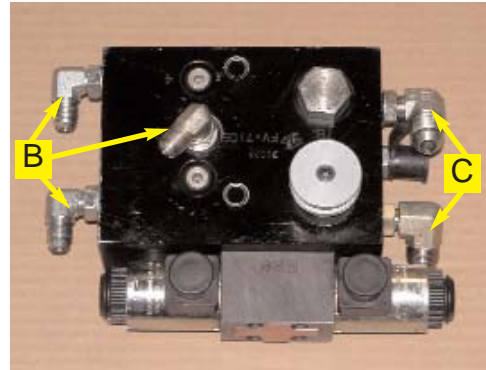

Figure 1a. Prepared Automated Steering Block.
- b. Install the small elbow adapter fittings (**B**) in the **LS**, **A** and **B** ports and the larger elbow adapter fittings (**C**) in the **P** and **T** ports. (Figure 1a.)